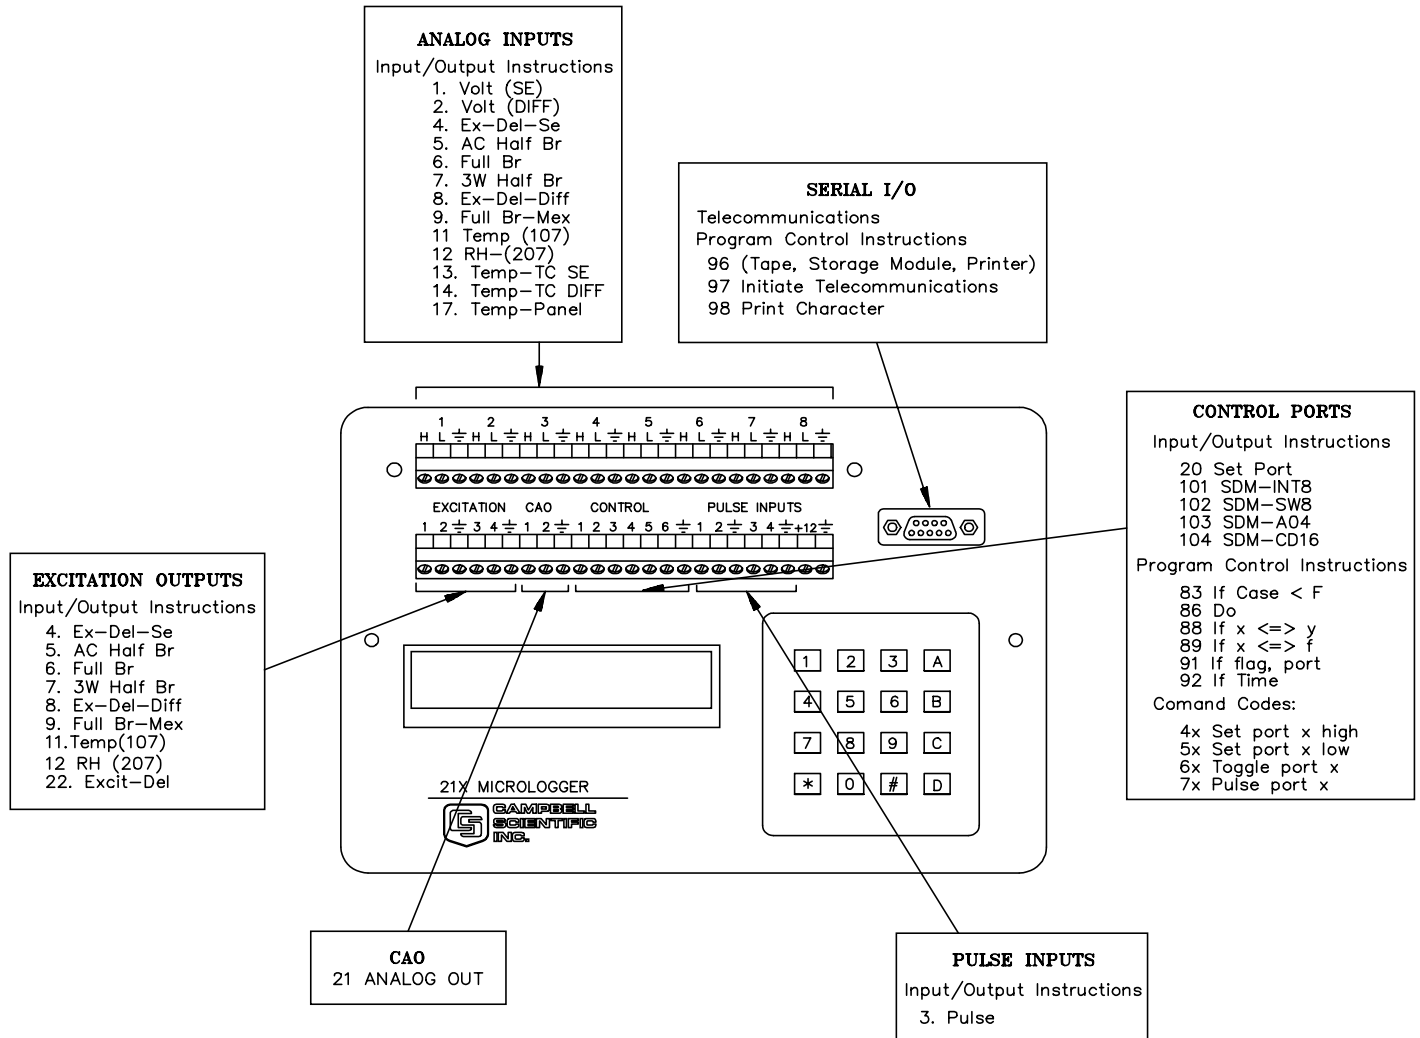

FIGURE OV1-2. 21X Wiring Panel and Associated Programming Instructions
The panel also contains two terminal strips which are used for sensor inputs, excitation, control outputs, etc. Figure OV1-2 shows the 21X panel and the associated programming instructions.
1. **INPUT/OUTPUT INSTRUCTIONS** (1-26,101-104, Section 9) control the terminal strip inputs and outputs (the sensor is the source, Figure OV1-2), storing the results in Input Storage (destination). Multiplier and offset parameters allow conversion of linear signals into engineering units. The Control Ports and Continuous Analog Outputs are also addressed with I/O Instructions.